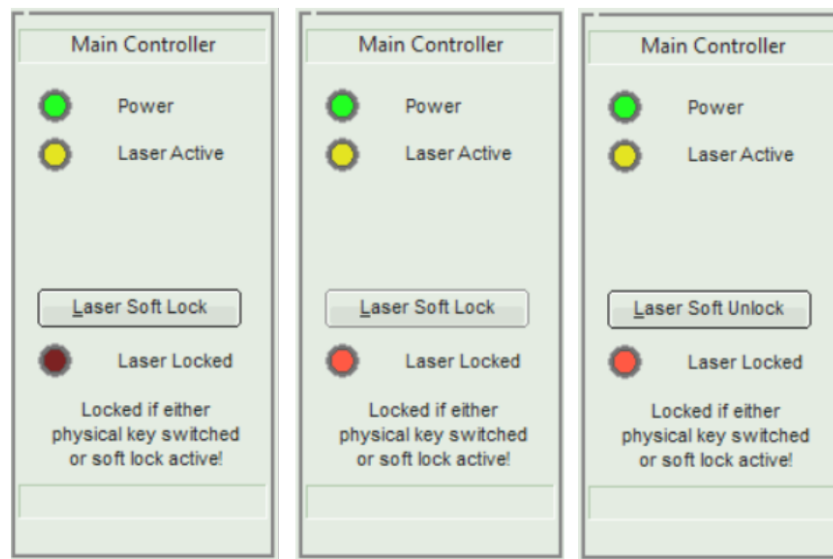

Figure 12: PRIMA locking status indicator in the GUI: laser unlocked (left), laser hard locked via key switch (middle), laser soft locked (right)
The **Laser Unlocked** state is recognizable in the software by the **Laser Locked** indicator turning dark red (see Fig. 12, left). In addition, the ON LED ④ on the *PRIMA* is blinking dark white if the key switch ③ is in ON-position and the interlock connector ② is not connected, or if the key switch is in STBY-position. If the key switch is in ON-position and the interlock connector is connected, the ON LED ④ lights up bright white constantly.
The **Laser Soft Locked** state is recognizable in the software by the **Laser Locked** indicator turning bright red. The button text could be either **Laser Soft Lock** in case the system was hard locked by key switch ③ or remote interlock circuit (see Fig. 12, middle), or **Laser Soft Unlock** (see Fig. 12, right) in case the system was soft locked (this even masks a hard lock state).